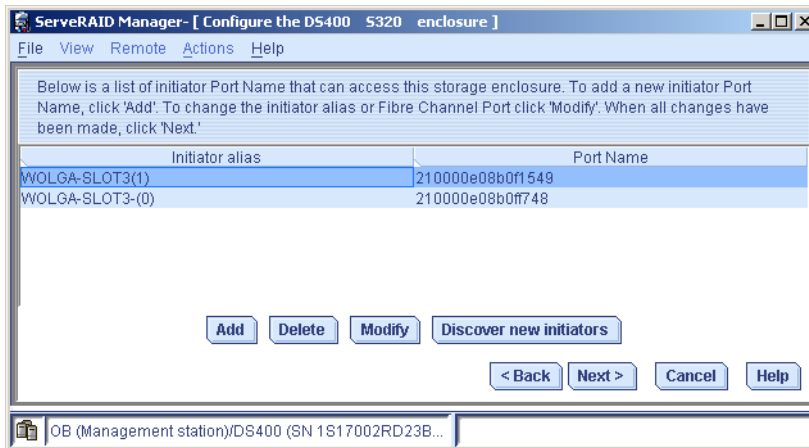

Figure 4-108 List of defined initiators
24. With the **Modify** button, an initiator alias can be modified but not the initiator itself. Select the first listed initiator and click **Modify**. See Figure 4-108.